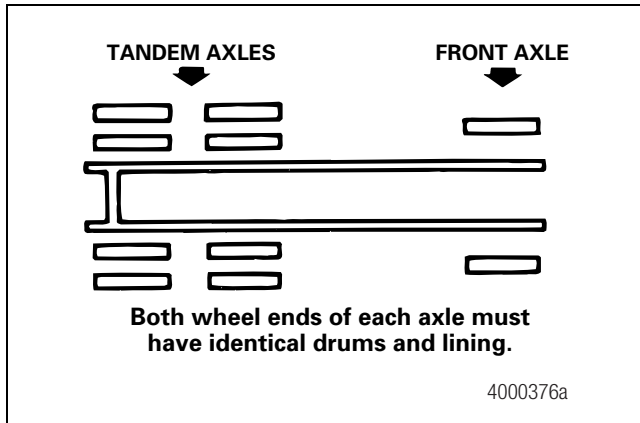

Figure 7.8
5. Both wheel ends of each axle must have the same linings and drums. All four wheel ends of the tandem axles also must have the same linings and drums. It is not necessary for the front axle brakes to be the same as the rear driving axle brakes. Figure 7.8.